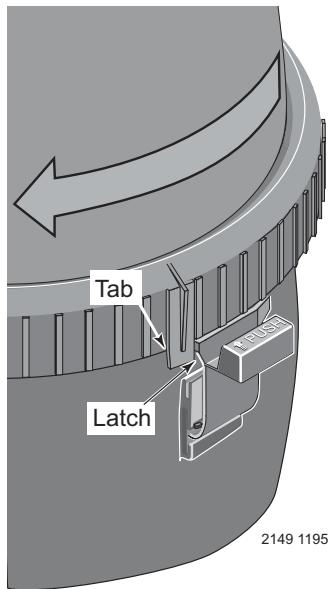

Figure 3 – Rotate Posi-Lok™ Ring until tab locks behind the safety latch.
1. Securely lock Posi-Lok™ ring in place by rotating ring CLOCKWISE until it "clicks" past the safety latch (see Figure 3). Stop turning as soon as the ring clicks past the latch. The ring may feel slightly loose, but it will tighten up when pump is on and filter is under pressure.
- D. Rotate the Posi-Lok™ clockwise until it locks behind the safety latch (see Figure 3).